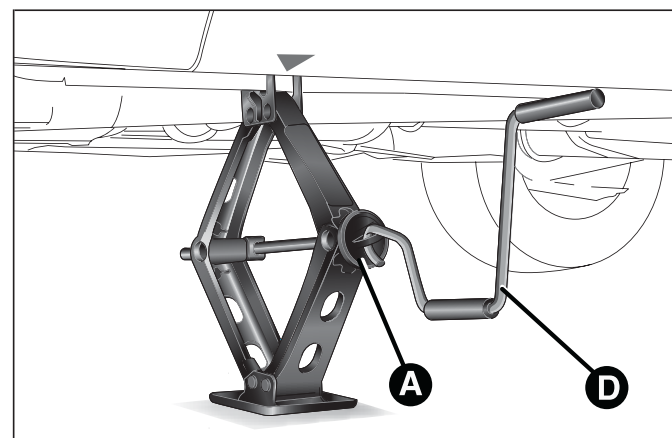
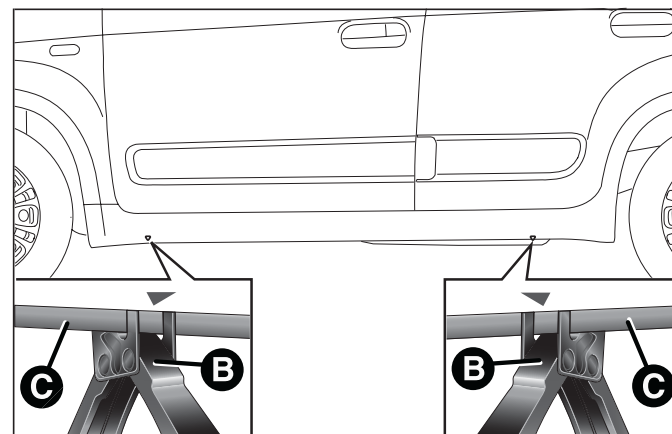

fig. 114
fig. 115
- ☐ operate the device A fig. 114 to extend the jack until the top of the jack B fig. 115 fits correctly into the side member C (next to the mark ▽ on the side member);
- ☐ fit handle D fig. 114 into the housing in device A, operate the jack and raise the car until the wheel is a few centimetres from the ground;